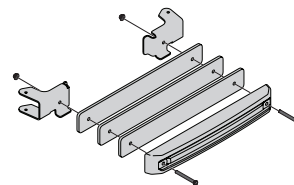

Figure 30
2. Attach the weight and three weight plates to the weight hanger brackets with two 3/8-inch hex head capscrews (710-3085) and two nuts (712-04065) as shown in Figure 30.